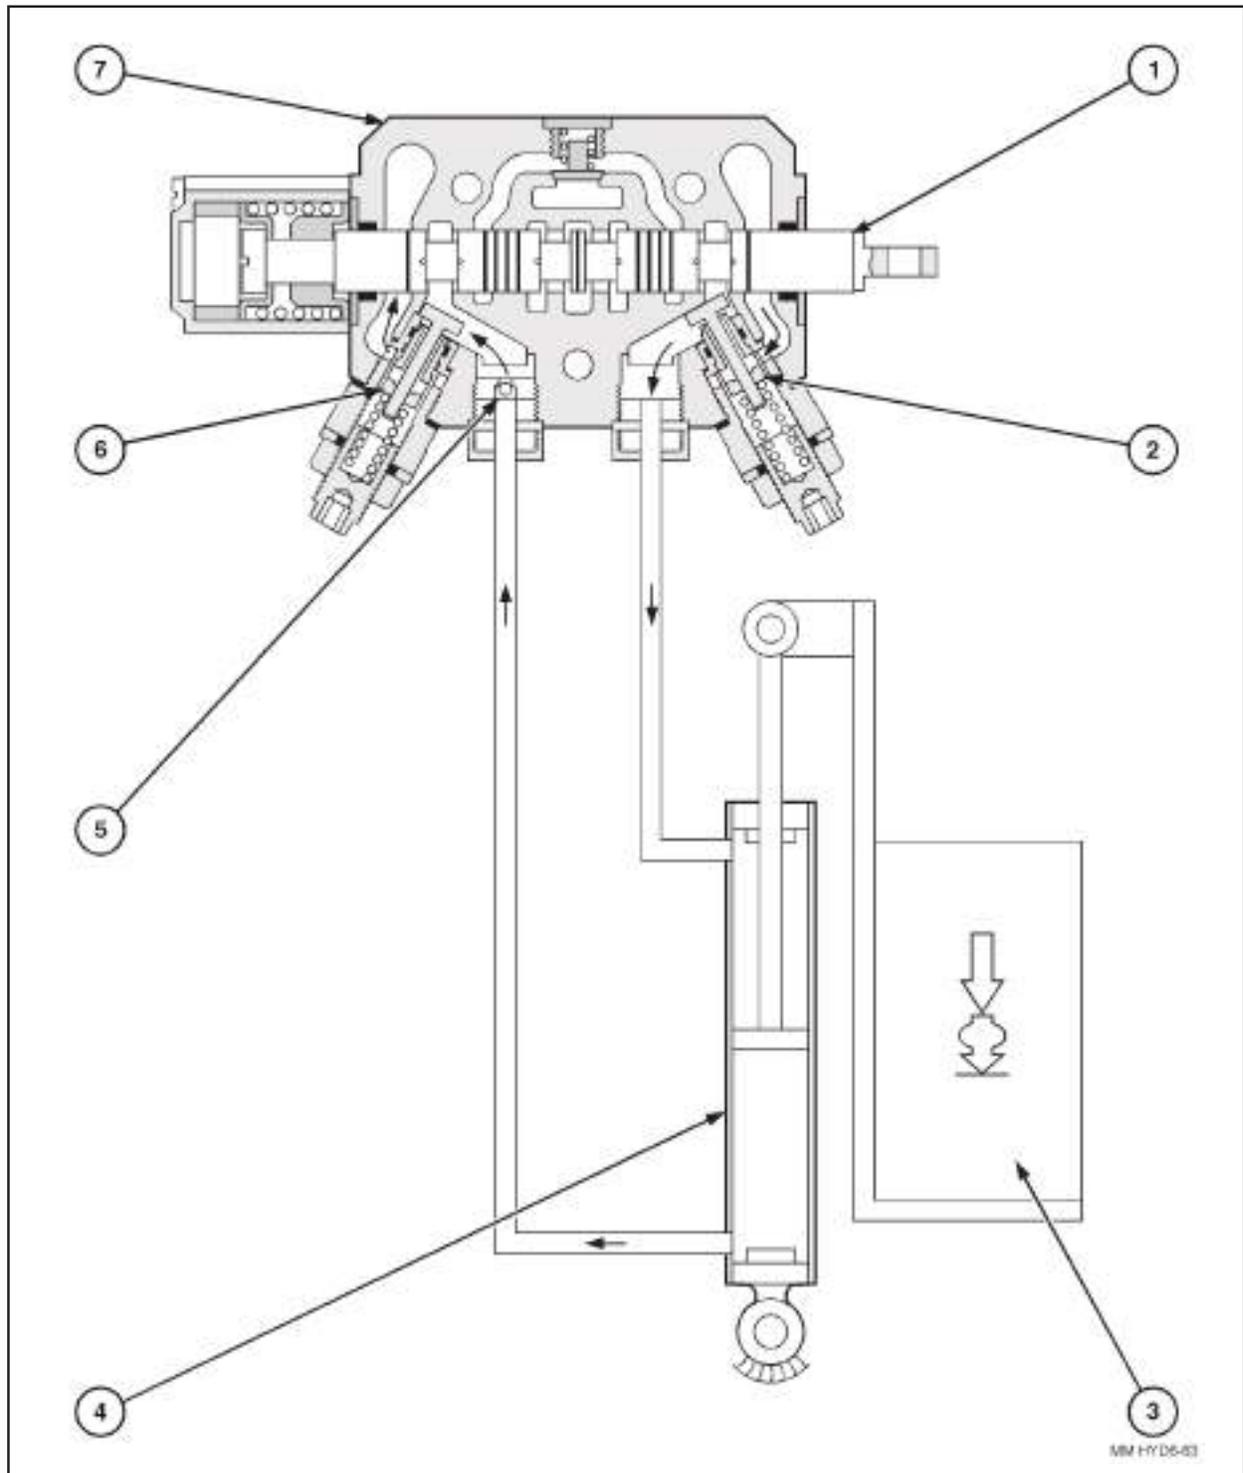

FIGURE 30. LIFT CIRCUIT IN SHOCK RELIEF CONDITION
- This condition is shown in the lift circuit in figure 30, where excessive cylinder pressure below the piston is limited by the service port relief valve providing a progressive deceleration of the load.